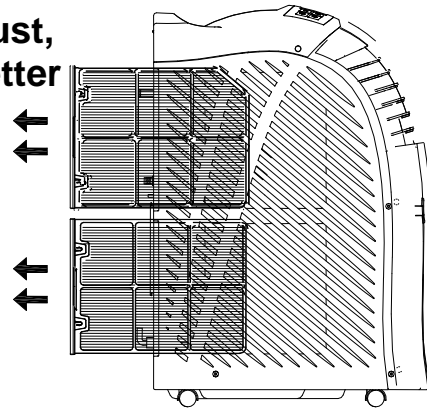

Fig 15
- 1) Pull out the air filter as Fig.15.